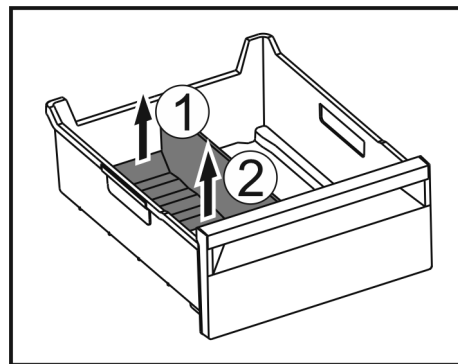

Fig. 119
- ▶ Lift the rear part of the ice compartment divider. *Fig. 119 (1)*
- ▶ Remove the ice compartment divider upwards. *Fig. 119 (2)*